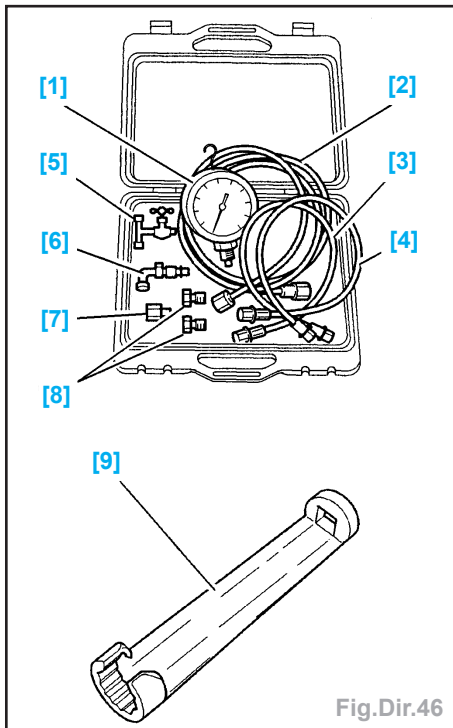

Fig.Dir.46
- Coffret (-).0710-ZZ comprenant (Fig.Dir.46) :